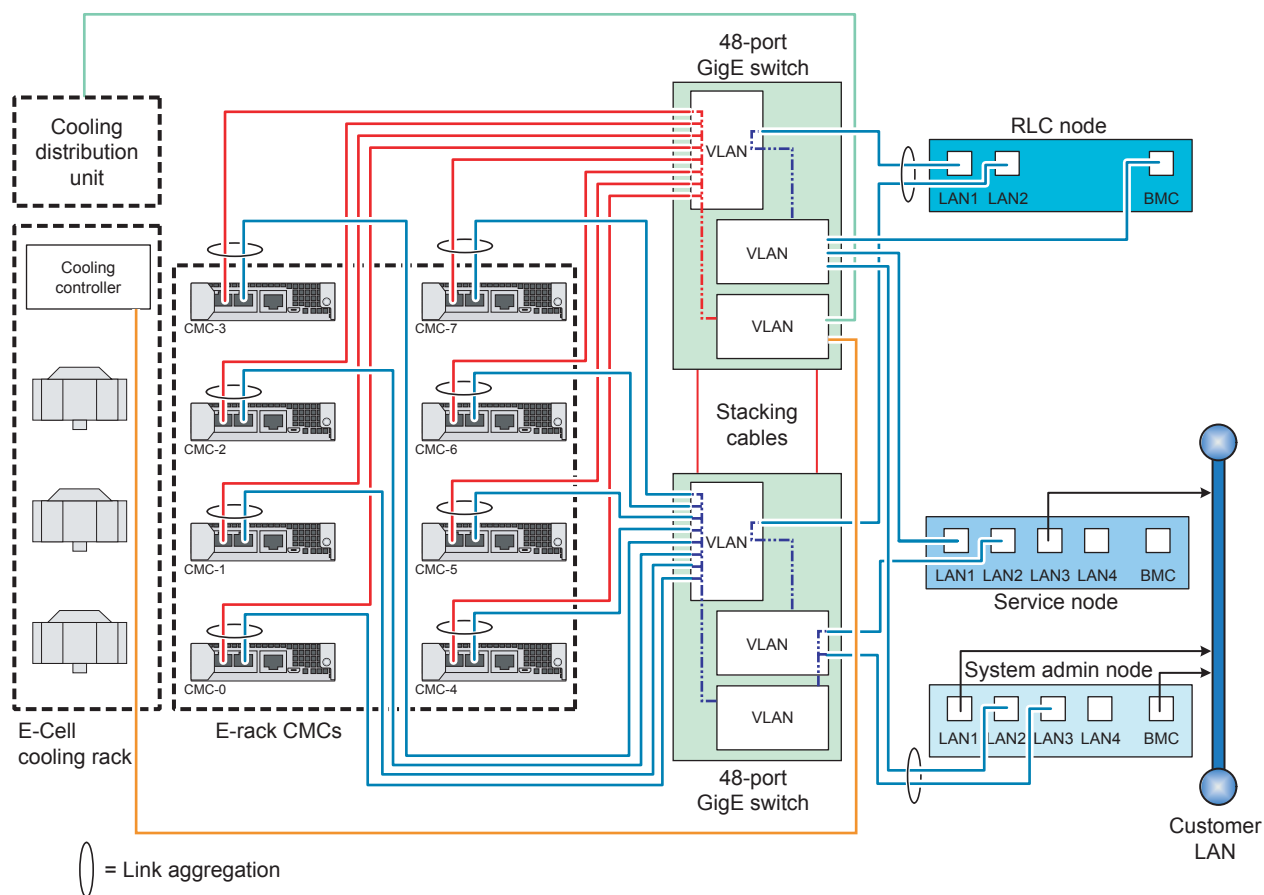

Figure 2-2 E-rack System Chassis Management Diagram (With CDU)
- All blade enclosures within a system are polled for and provide information to the administrative node and RLC through their chassis management controllers (CMCs). Note that the CMCs are enlarged for clarity in Figure 2-2 on page 18.
The chassis manager in each blade enclosure connects to the system administration, rack leader and service node servers via Gigabit Ethernet switches. See the example in Figure 2-2.